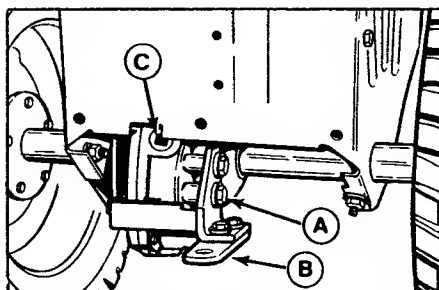

Figure 14. Transmission Oil Level Check (Drawbar Removed)
- Remove the transmission oil level check capscrew (A, figure 14).
- Oil should be level with bottom of hole. If not, remove the fill plug (C) and add Allis-Chalmers Power Fluid 821. When level with check hole replace and retighten capscrew and fill plug. (Apply sealant to capscrew thread before reinstalling).